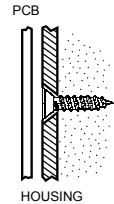

Figure B.4:
9. Mount the back cover using two screws and replace the PCB. Use ISO 7050 (ST3.5 x 22) or similar countersunk screws so that the screw head will not touch the PCB – see Figure B.4.
10. Mount the back cover to the wall using two screws and replace the PCB. Use ISO 7050 (ST3.5 x 22) or similar countersunk screws so that the screw head will not touch the PCB – see Figure B.4.